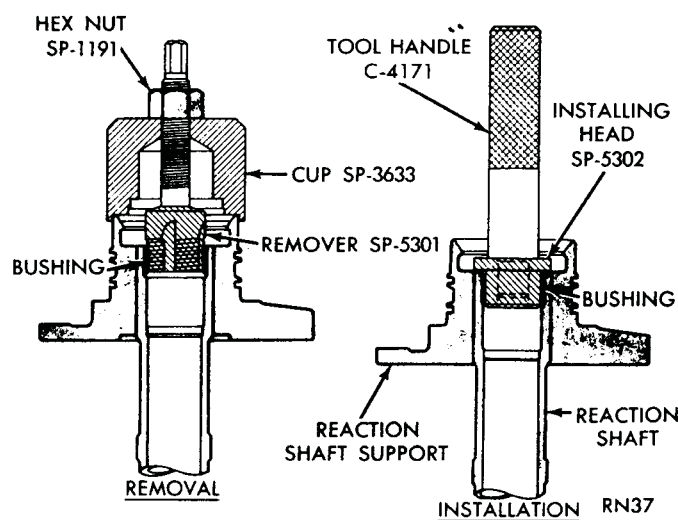

Fig. 17—Replacing Reaction Shaft Bushing (A-727)
(1) Assemble the remover Tool SP-5301, cup Tool SP-3633, and hex-nut Tool SP-1191 (Fig. 17).
(4) Turn hex nut down against the cup to pull bushing from reaction shaft. Thoroughly clean reaction shaft to remove chips made by remover threads.
(5) Lightly grip bushing in a vise or with pliers and back tool out of the bushing. Be careful not to damage threads on bushing remover.
(6) Slide a new bushing (chamfered end first) on installing head Tool SP-5302, and start them in the bore of reaction shaft (Fig. 17).
(7) Support reaction shaft upright on a clean, smooth surface and install handle Tool C-4171 in installing head. Drive bushing into shaft until tool bottoms.
(8) Thoroughly clean the reaction shaft support assembly before installation.